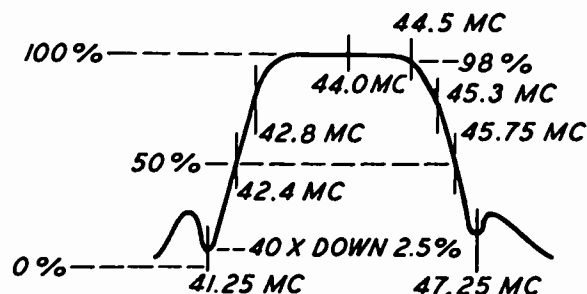

Fig. 6—Overall Response Curve
- C. After these adjustments have been made recheck the peak to peak output on the oscilloscope. If the shape of the curve is not as shown in figure 6, it will be necessary to retouch the adjustments. A small fraction of a turn is all that is necessary if the strip is operating correctly. The position of the 44.5 Mc marker is critical (98%). The 44.0 Mc transformer (3rd I-F) controls the symmetry of the top. The 45.3 Mc transformer (2nd I-F) controls the height of the 45.75 Mc marker. The 42.8 Mc transformer (1st I-F) controls the height of the 42.4 Mc marker. This adjustment will very seldom need retouching.